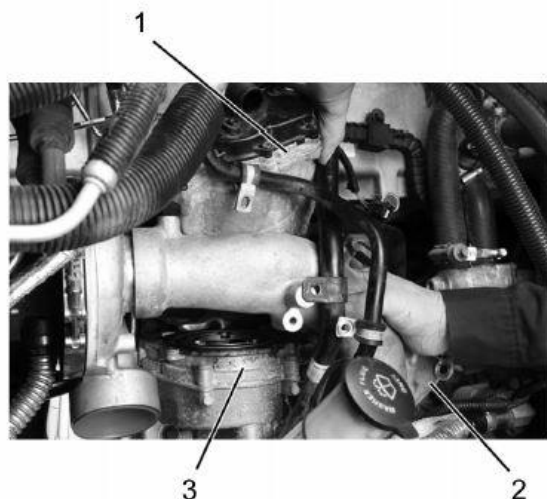

Figure 13: CCOS Housing
NOTE: While the HP turbocharger inlet duct is loose, maneuver and install the CCOS housing in and down (Figure 13).
4. While installing HP turbocharger inlet duct (Figure 13, Item 2), install CCOS housing (Figure 13, Item 1) on oil jet plate (Figure 13, Item 3).
5. Secure CCOS housing (Figure 13, Item 1) with three new CCOS housing bolts. Tighten CCOS housing bolts to 79 lb-in (8.9 N•m).